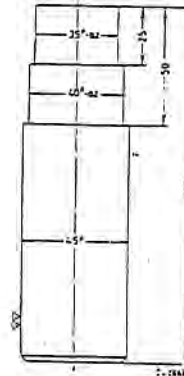

Fig. 25-5/3
On the 300 SE cars with mechanical transmission remove the snap ring (7) by means of snap ring pliers (8). Remove the spring retainer (6) and the return spring (5) (Fig. 25-5/2).
3. Remove the throw-out unit (1) together with the throw-out bearing from the neck of the transmission case front cover (3).